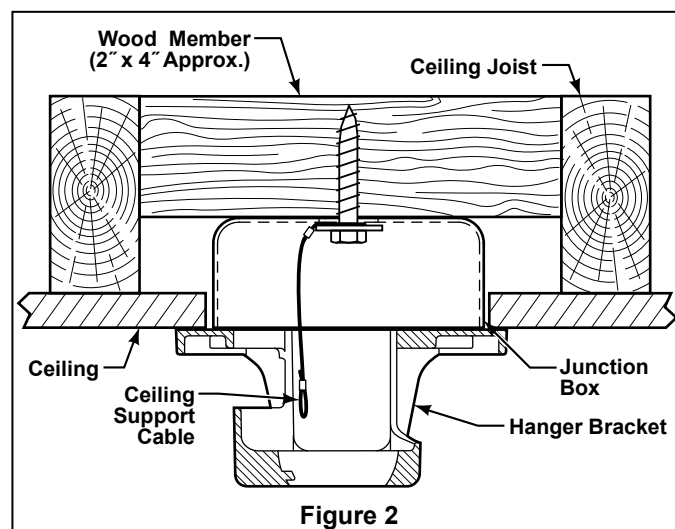

Figure 2
4. Loosen the two setscrews and hex nuts in the Downrod Support. Screw Downrod into Coupler. Align the Clevis Screw holes in the Downrod with the holes in the Downrod Support. (Figure 2)
5. Install the Clevis Screw, Rubber Washers and secure with the Clevis Locknut and Hairpin Clip. (Figure 2) The Clevis Locknut, Hairpin Clip and Washers must be properly installed to prevent the Clevis Screw from working loose.
1. Using the  $\frac{3}{8}$ " x 2" lag bolt and flat washer, attach safety cable to ceiling joist or wood structural member. The lag bolt will pass through the flat washer, safety cable loop, the junction box and into the building structure (Figure 2). You will first drill a  $\frac{1}{4}$ " pilot hole into the building structure to prevent splitting or cracking.
**NOTE:** Ceiling support cable must be fastened between flat washer and ceiling junction box (Figure 2).
4. Attach Blade Holders to the Motor Hub using the Screws w/Lock washers as shown in Figure 2.
5. Make sure the screws with lock washers securing the Blade Holders to the Motor Hub are tight and that the Blade Holders are properly seated. (Figure 2)